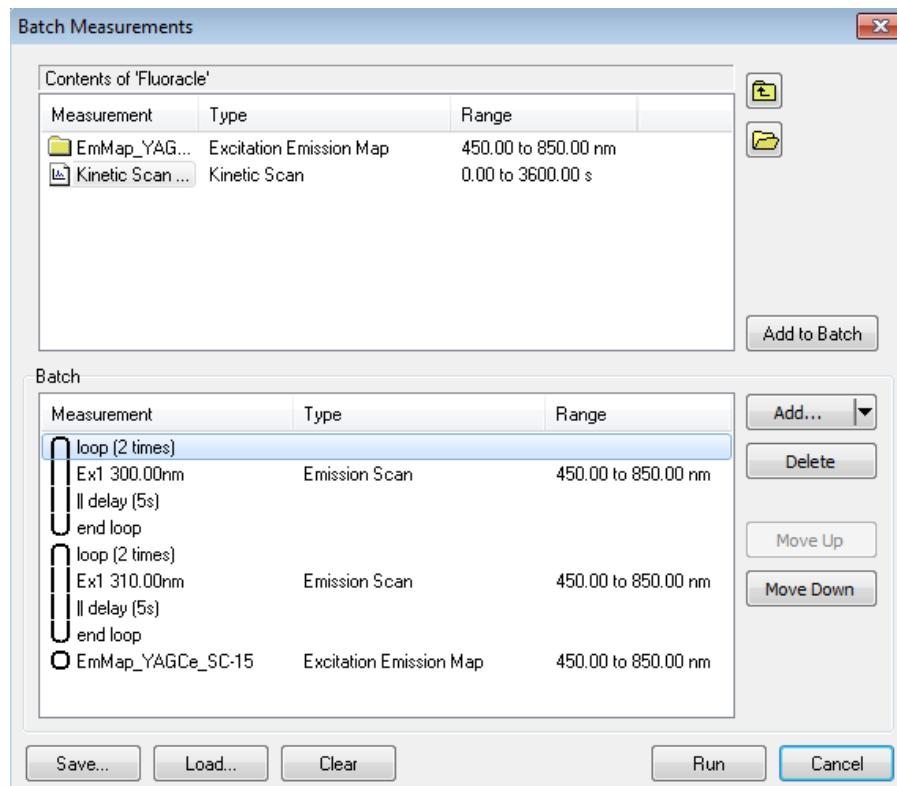

Figure 7-1. Batch Measurements setup dialogue
- 17-2 The upper panel of Batch Measurements setup dialogue (Figure 7-1) shows all the current content of Fluoracle. The lower panel allows organising a batch protocol for multiple sample measurements. To organise a protocol: